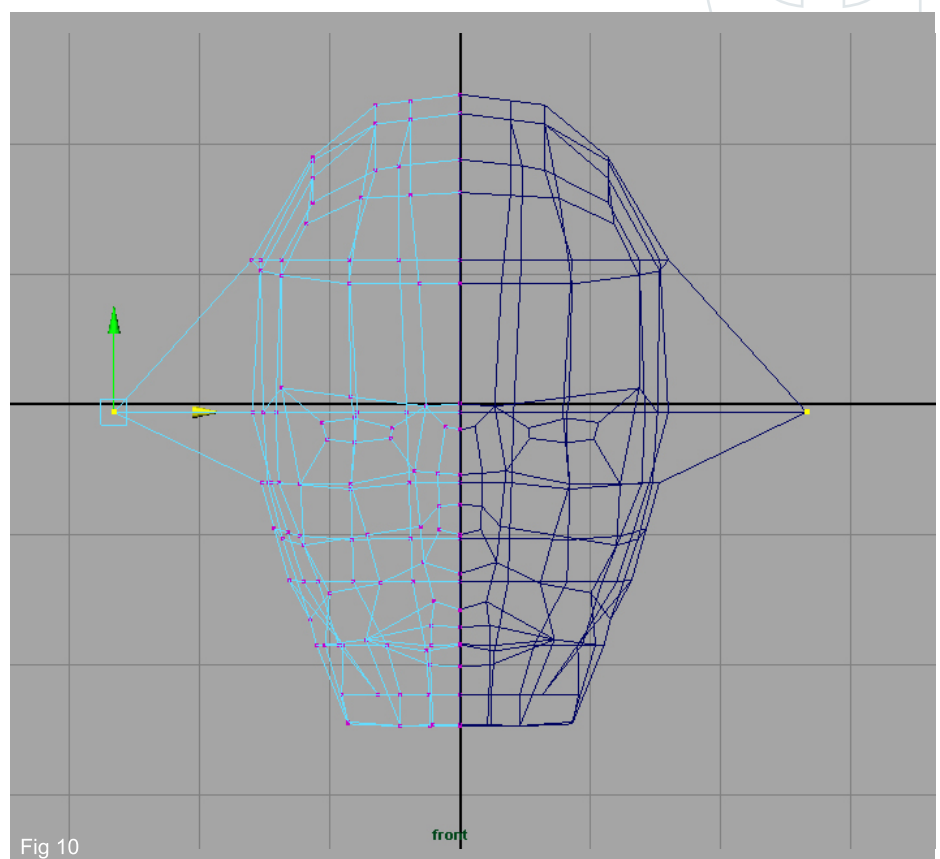

Fig 10
10. Always a good idea to just test it out and make sure the instance is working. Select one of the half's (doesn't matter which one), go into vertex component mode and try moving around a vertex. The corresponding vertex on the mirrored mesh should be mirroring your movements exactly. (Fig 10)